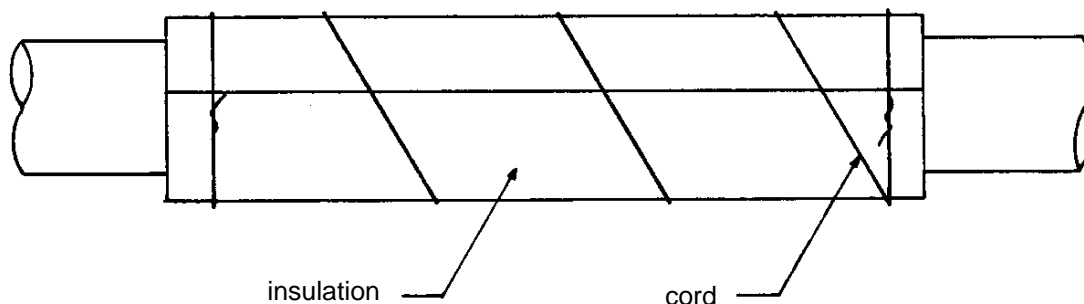

FIGURE 1 - USE OF GLASS FIBRE CORD TO HOLD INSULATION IN PLACE
- Step 2. Wrap insulation around the area of the duct to be insulated and hold in place using glass fibre cord as shown in Figure 1.